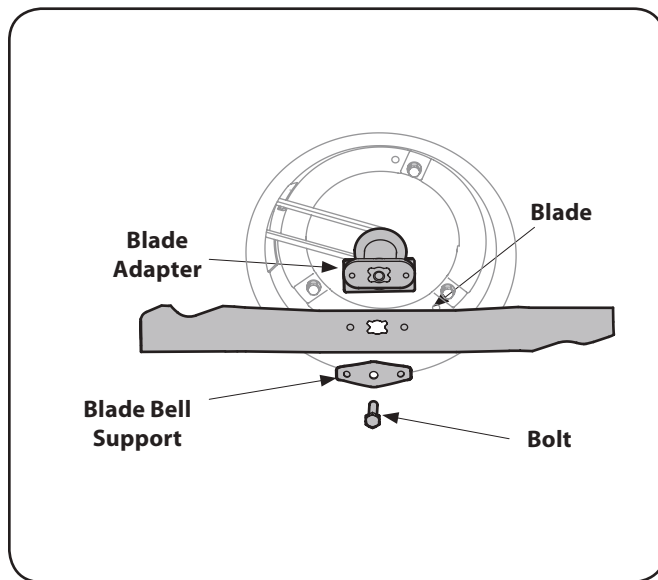

Figure 7-1
2. Remove the bolt and the blade bell support which holds the blade and the blade adapter to the engine crankshaft. See Fig. 7-1.
3. Remove blade and adapter from the crankshaft. See Fig. 7-1.